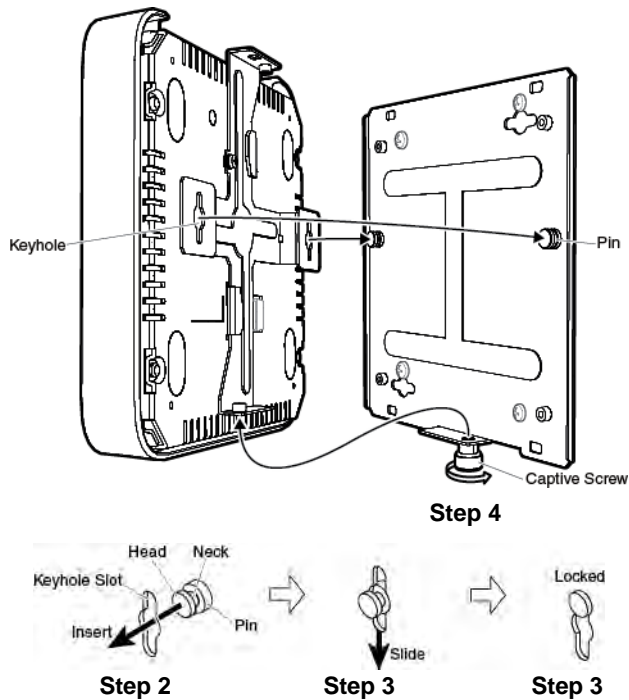

Figure 9. Attaching Access Point to Base Plate
2. Insert the two base-plate pins into the circles of the keyhole slots, as shown in Figure 9.
3. Slide the access point downward to lock the necks of the base-plate pins in the slots, as shown in Figure 9.
4. Fasten the access point to the base plate by turning the base-plate captive screw clockwise using a Phillips-head screwdriver, as shown in Figure 9 on page 26.